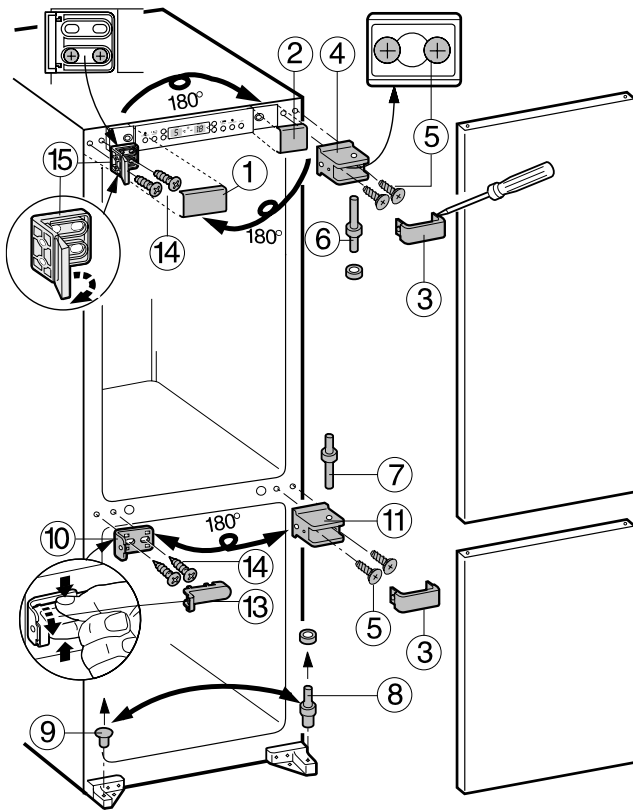

Figure 10
Reversing Door Hinges - Figure 10
1. Pull off the covers (**Fig. 10, 1**) and (**Fig. 10, 2**).
2. Open bracket (**Fig. 10, 15**) and remove screws (**Fig. 10, 14**). When installing into the kitchen cabinet, replace bracket on the opposite side using the same screws.
3. Using caution, press in the side of the hinge covers (**Fig. 10, 3**) with a tool and remove covers.
4. Unthread the outside screw (**Fig. 10, 5**) in the hinge, halfway. Remove the inside screw completely.
5. Open the top door slightly. Push the door and hinge (**Fig. 10, 4**) out and remove simultaneously.
6. Remove the hinge pin (**Fig. 10, 7**). Pull out the bottom door and remove.
7. Remove the plug (**Fig. 10, 9**).
8. Transfer the hinge pin (**Fig. 10, 8**) to the other side.
9. Remove the bracket (**Fig. 10, 10**) and cover (**Fig. 10, 13**) by pressing the cover together, then tilt out the bottom. When installing into the kitchen cabinet, replace on the opposite side using the same screws.
10. Remove the center hinge screws (**Fig. 10, 5**). Remove the center hinge (**Fig. 10, 11**). Rotate hinge 180° and install on the opposite side using the same screws. Thread the outside screw halfway in. Attach the hinge through the keyhole-shaped hole and slide in. Tighten both screws.
11. Place the bottom door on the hinge pin (**Fig. 10, 8**). Close door and insert the center hinge pin (**Fig. 10, 7**) with the longer side down. Be sure washers are in place.
12. Place the top door on pin (**Fig. 10, 7**) and close door.
13. Place the top hinge (**Fig. 10, 4**) together with pin (**Fig. 10, 6**) with the longer side up in the door mounting hole. Tilt the door away slightly and suspend the hinge on the screw (**Fig. 10, 5**). Slide the door in and tighten both screws.